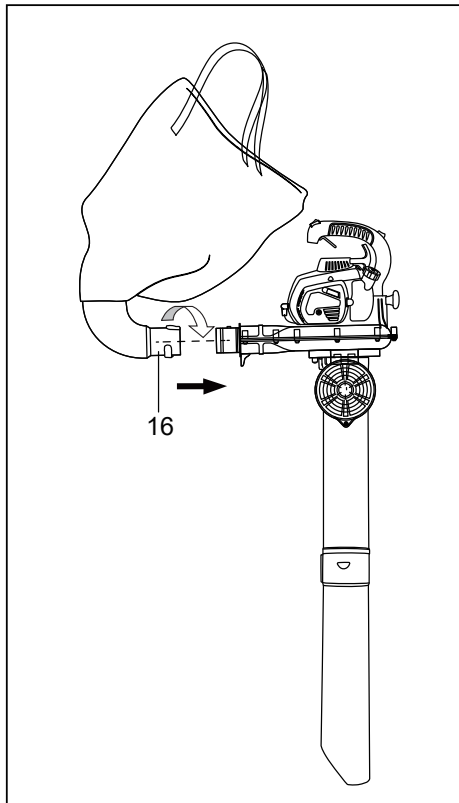

Fig. 5
1. Mount the elbow tube (16) to the body and rotate clockwise. Ensure fixed in place before operation (Fig. 5).